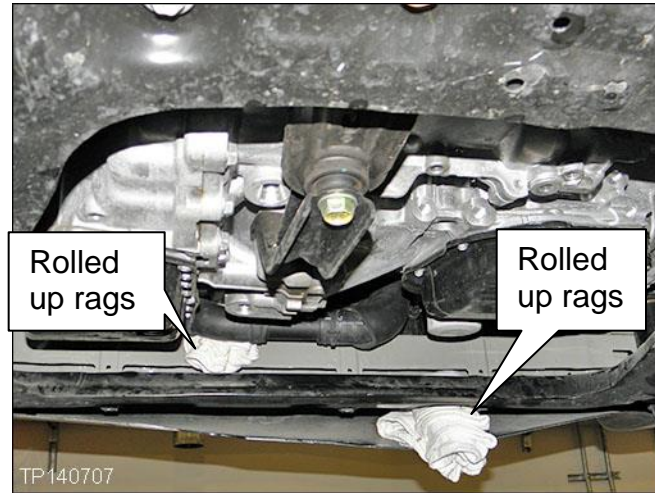

Figure 7
9. Position rolled up rags between the lower radiator hose and the lower radiator core support as shown in Figure 7.
10. Position rolled up rags between the lower front fascia and the sub-frame as shown in Figure 7.